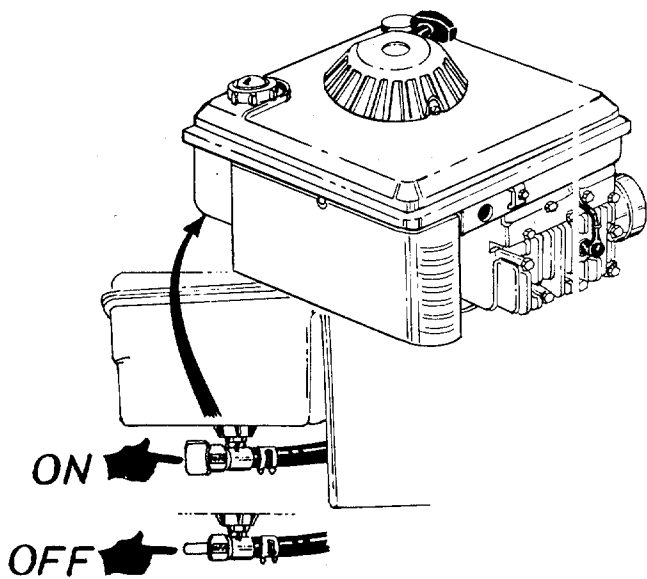

FIGURE 23.
Before assembling the top catcher panel and grass catcher to the unit, open the fuel shut-off valve on the engine. Refer to "Before Starting" section and figure 23 on page 12.
4. Open fuel shut-off valve, located beneath the fuel tank. See figure 23.